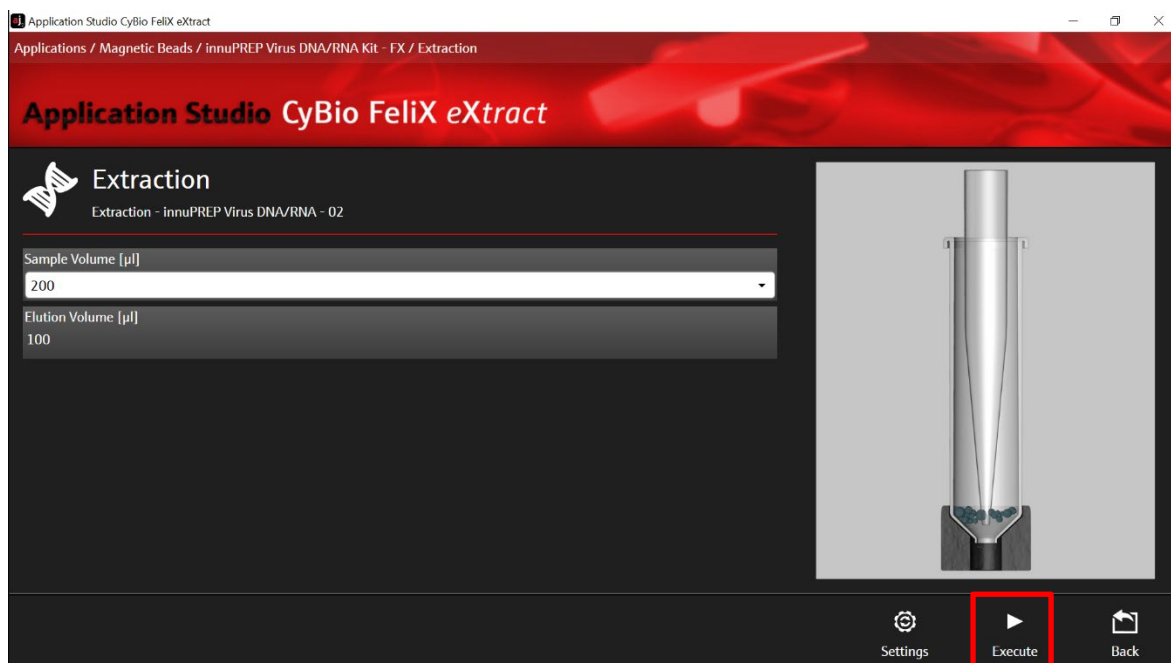

Figure 16: Selection of sample volume (200 μ L) and elution volume (variable).
6. After selecting "Extraction" the Extraction Start Screen appears (→ see Figure 16).
8. Select the protocol by choosing the corresponding sample volume (200 μ L) and adjust the elution volume (between 50–200 μ L, 100 μ L are recommended) (\rightarrow see Figure 16).